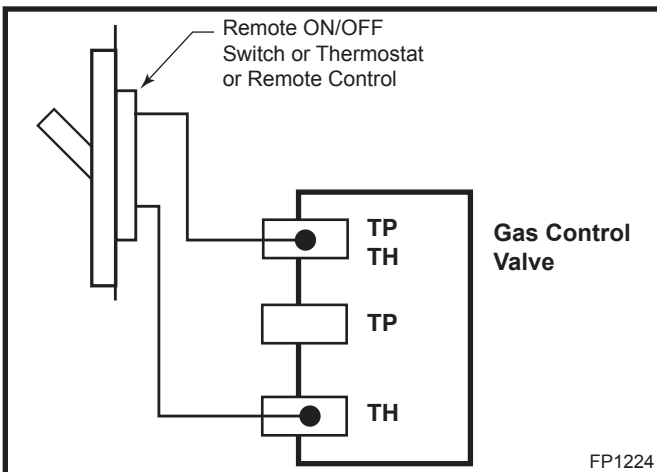

Fig. 6 Remote switch wiring diagram for RN/RP models.
3. Connect the other ends of the wire to the gas control valve. (Fig. 6)